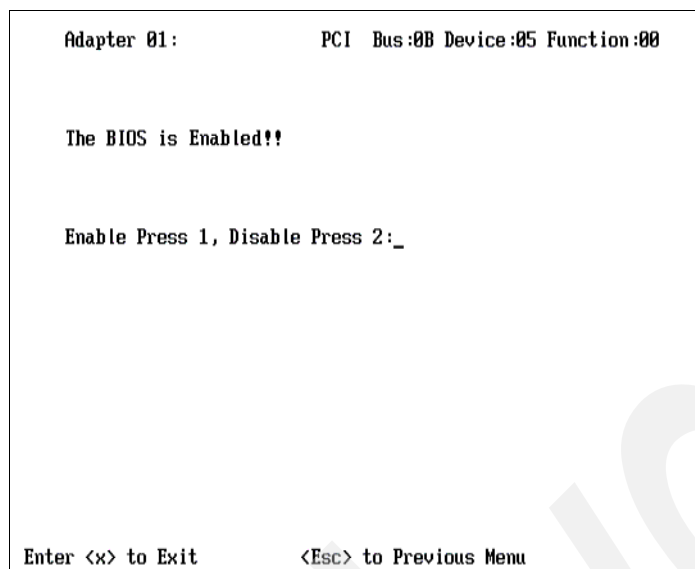

Figure 24-15 Emulex BIOS - Adapter BIOS enabled
4. Type 1 and press Enter again to enable the BIOS. You can see in Figure 24-15 that the BIOS is now enabled.